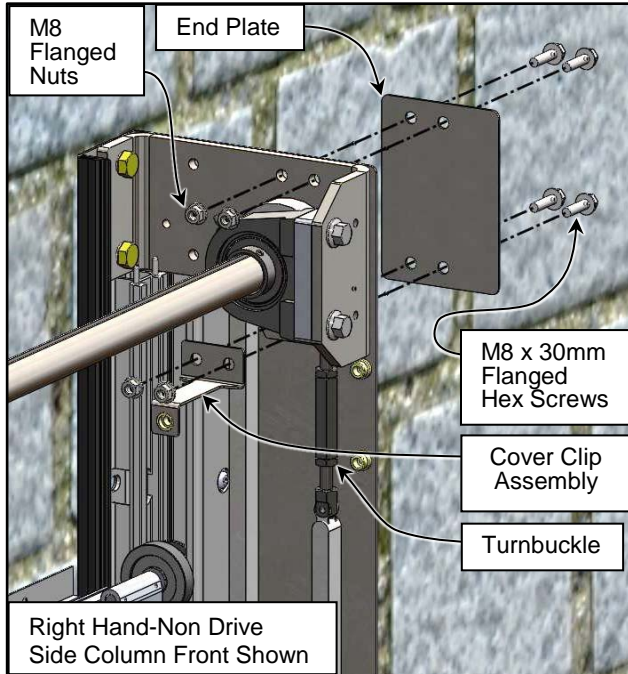

Figure 58
1. Identify and locate the cover clip assembly, end plate, and fasteners. Install the Cover Clip Assembly, End Plate, and fasteners on the non-drive side column assembly as shown. (See Figure 58)